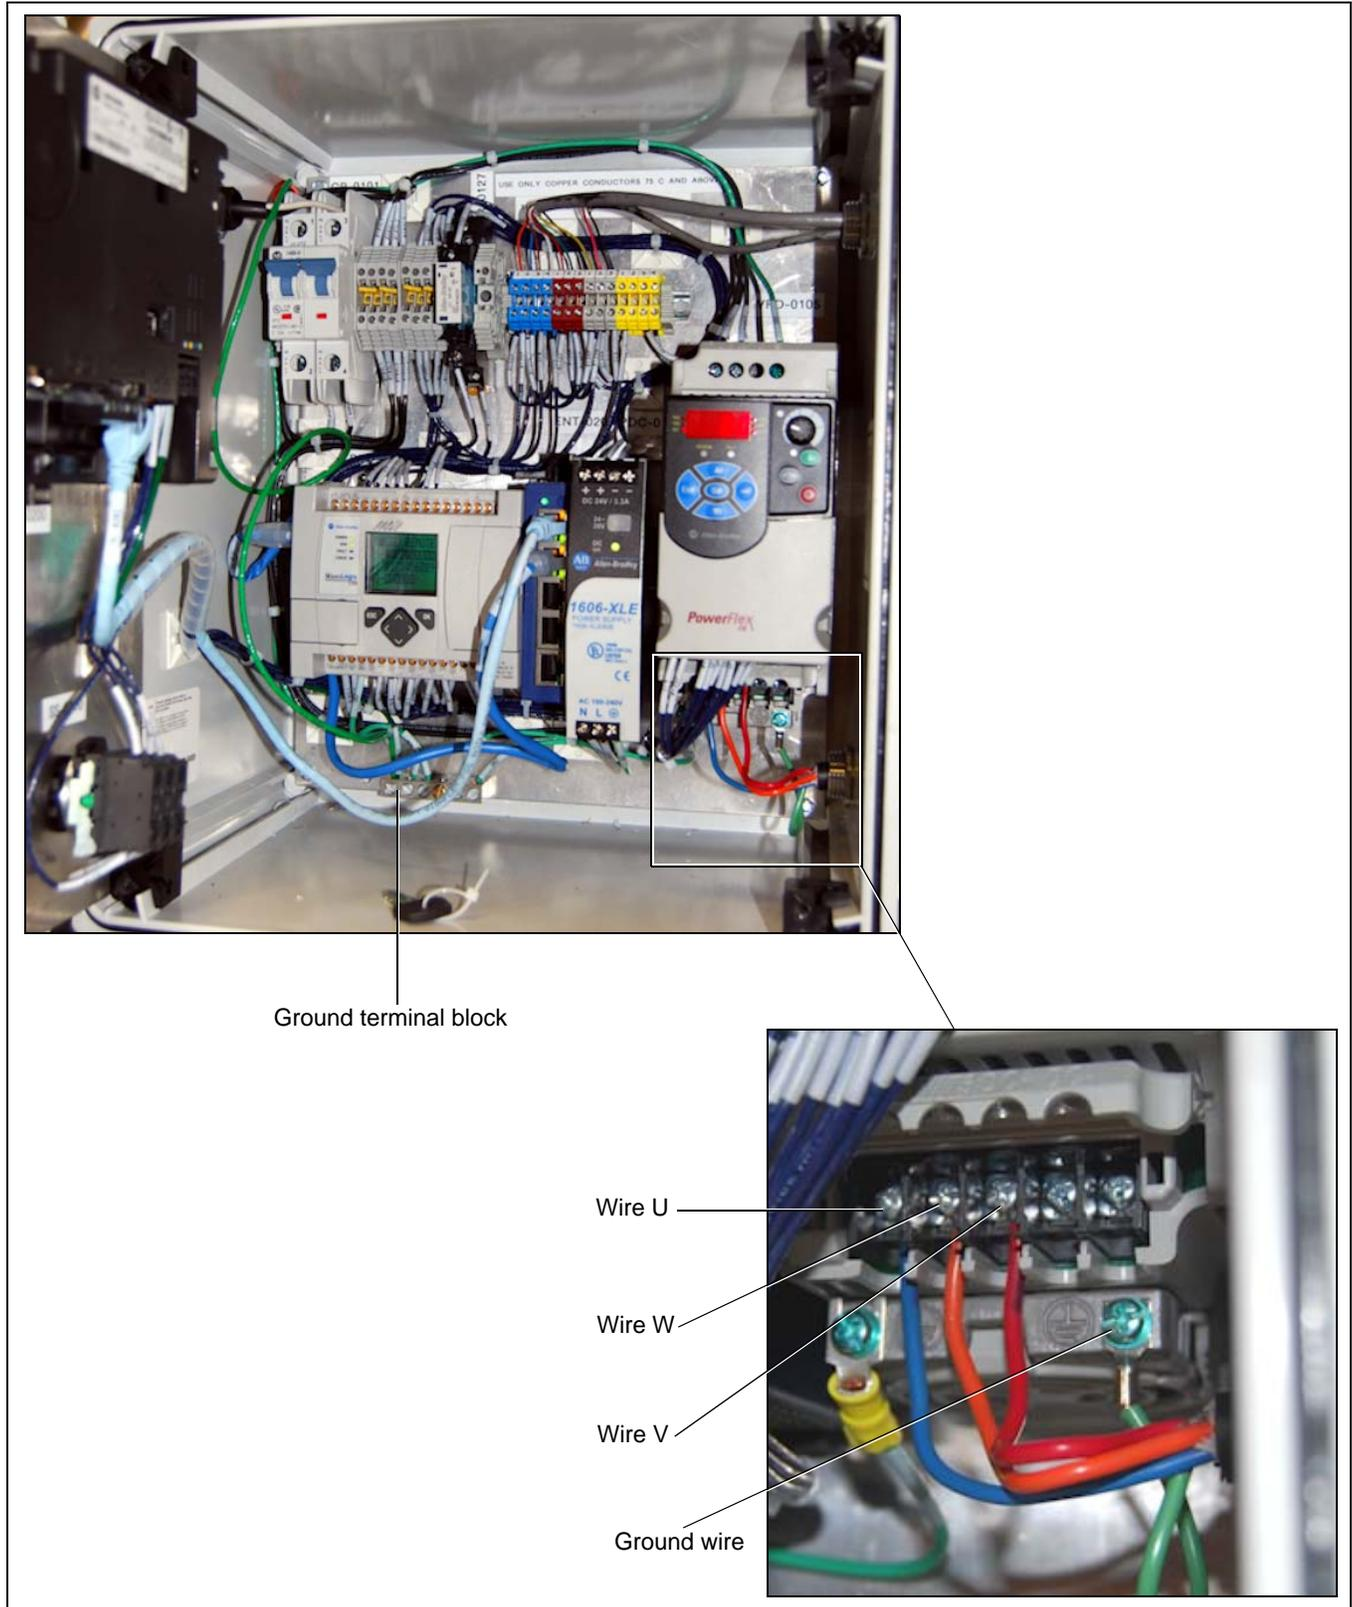

**Figure 3S** Enclosure Covers Installation
Install the two (2) side access covers (DEC0012) using four (4) 1/4"-20 x 3/4" HHCS bolts (S-1429) and 1/4" lock washer (S-2041) each and install the bottom enclosure cover (DEC0013) using ten (10) 1/4"-20 x 3/4" HHCS bolts (S-1429) and 1/4" lock washers (S-2041) as shown in Figure 3S.